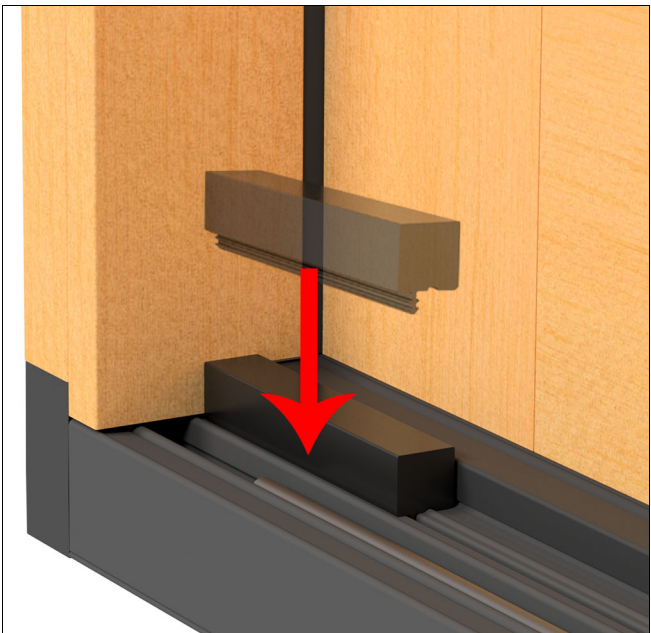
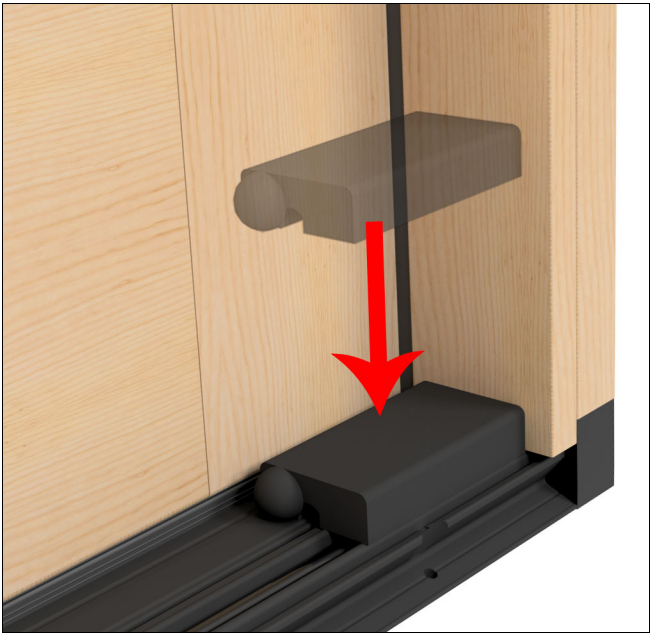

Figure 56 Performance sill
Figure 57 Accessibility sill
5. Install the sill stop. On performance sills, fit the barbed stop into the groove in the sill, tight against the interior jamb stop. See Figure 56. On accessibility sills, the bumper is taped in place. See Figure 57.